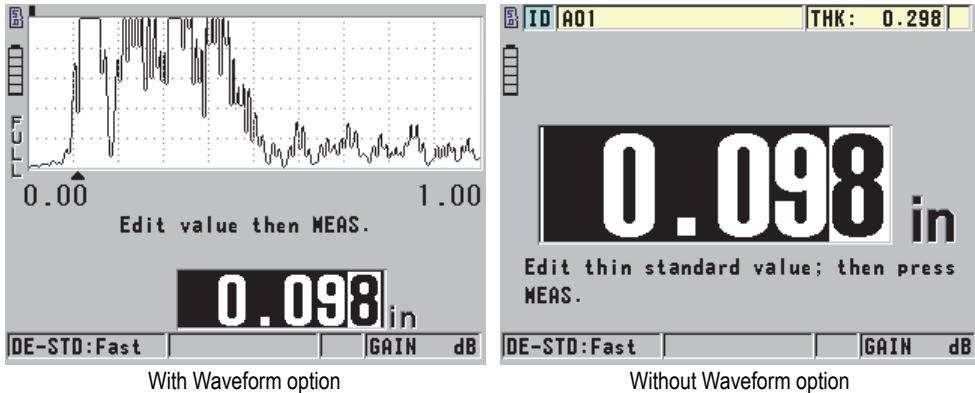

Figure 5-7 Performing the zero calibration on a five-step test block
2. To perform the zero calibration using an instrument with or without the Waveform option (see Figure 5-7 on page 59):